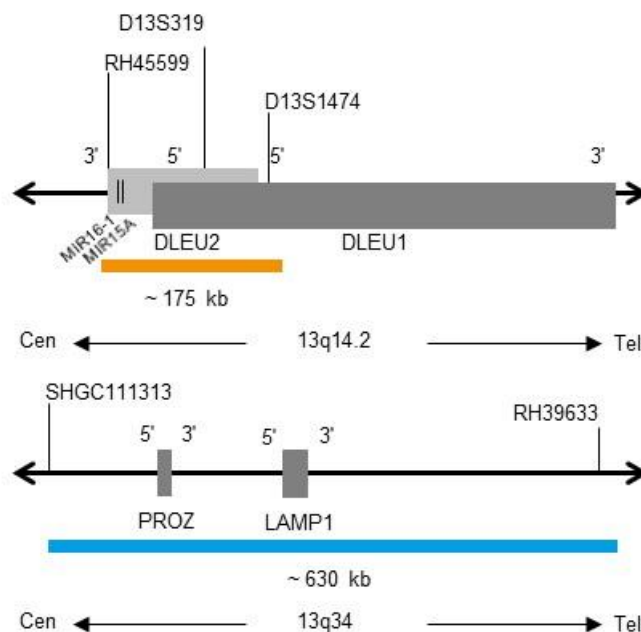

Fig. 1: Top: SPEC D13S319 Probe map, Bottom: 13q34 Probe Map (not to scale)
- ZyOrange (excitation 547 nm/emission 572 nm) labeled polynucleotides (~4.5 ng/μl), which target sequences mapping in 13q14.2* (chr13:50,607,438-50,781,256) harboring the D13S319 locus (see Fig. 1).
- ZyBlue (excitation at 418 nm and emission 467 nm) labeled polynucleotides (~37 ng/μl), which target sequences mapping in 13q34* (chr13:113,691,216-114,323,467) harboring the Lamp1 gene region (see Fig. 1).